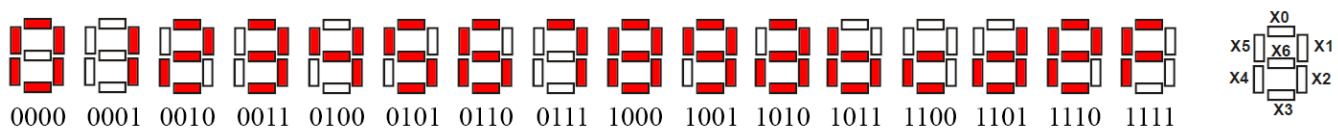
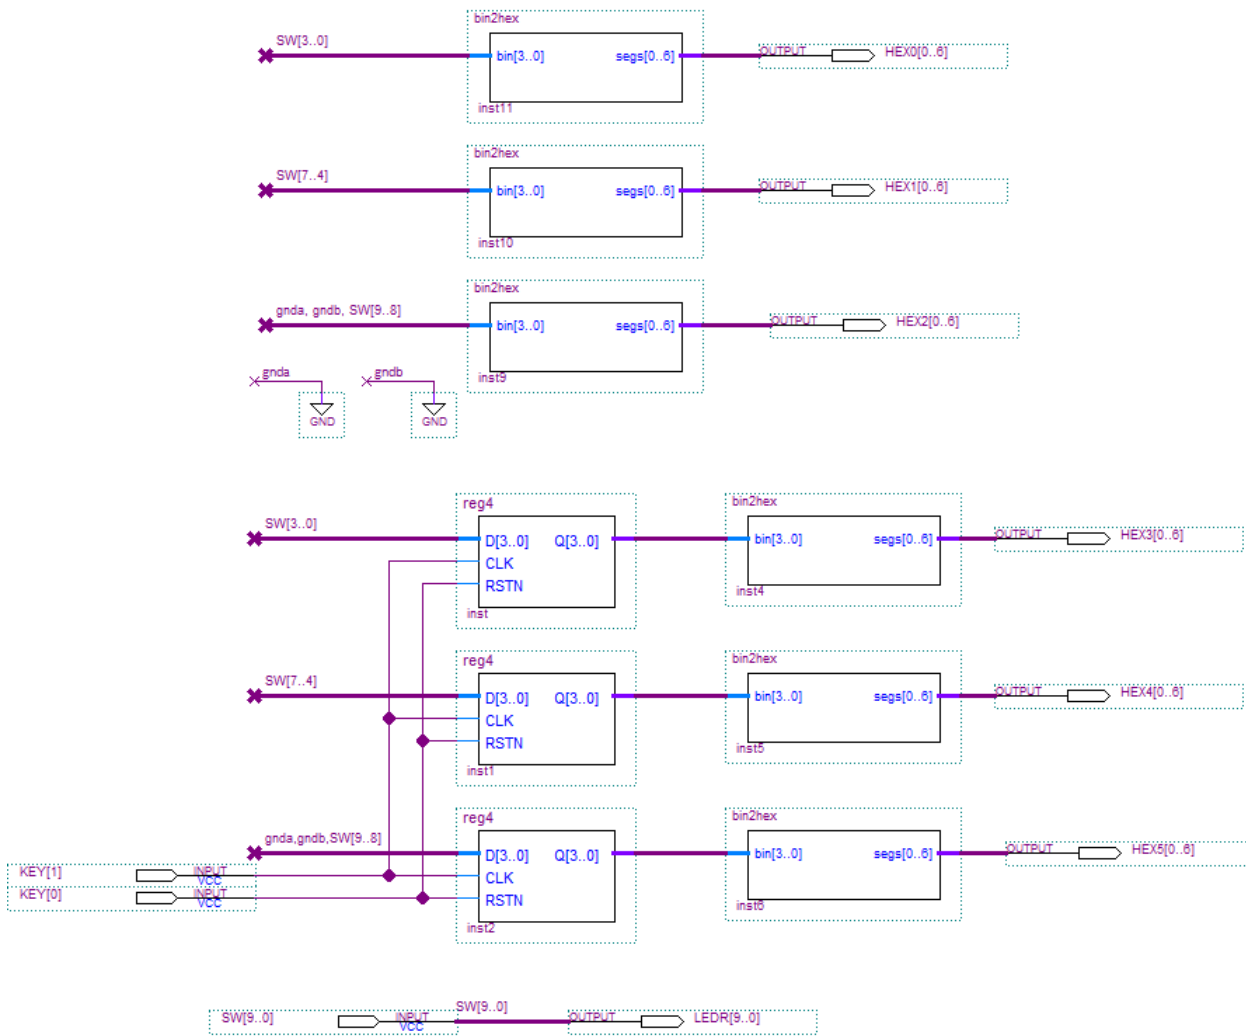

Figure 4. Hexadecimal Character Display
Figure 5. Top-level Schematic with Custom Symbols
- Create a symbol for the binary to hexadecimal circuit. This combinational circuit should take a 4-bit binary input and output the seven-segment display driver signals so that the corresponding hexadecimal digit is displayed, as shown in Figure 4 below—note some patterns are non-standard. Use buses for the inputs and outputs as shown in Figure 5.
- Create a 12-bit positive edge triggered register using the embedded D flip-flops in the Altera FPGA. (Use the DFF component in the Altera library). Create a symbol for the register. (This can be implemented using 4-bit registers, if preferred). Again, use buses for the input and output to minimize wiring, as shown in Figure 5.